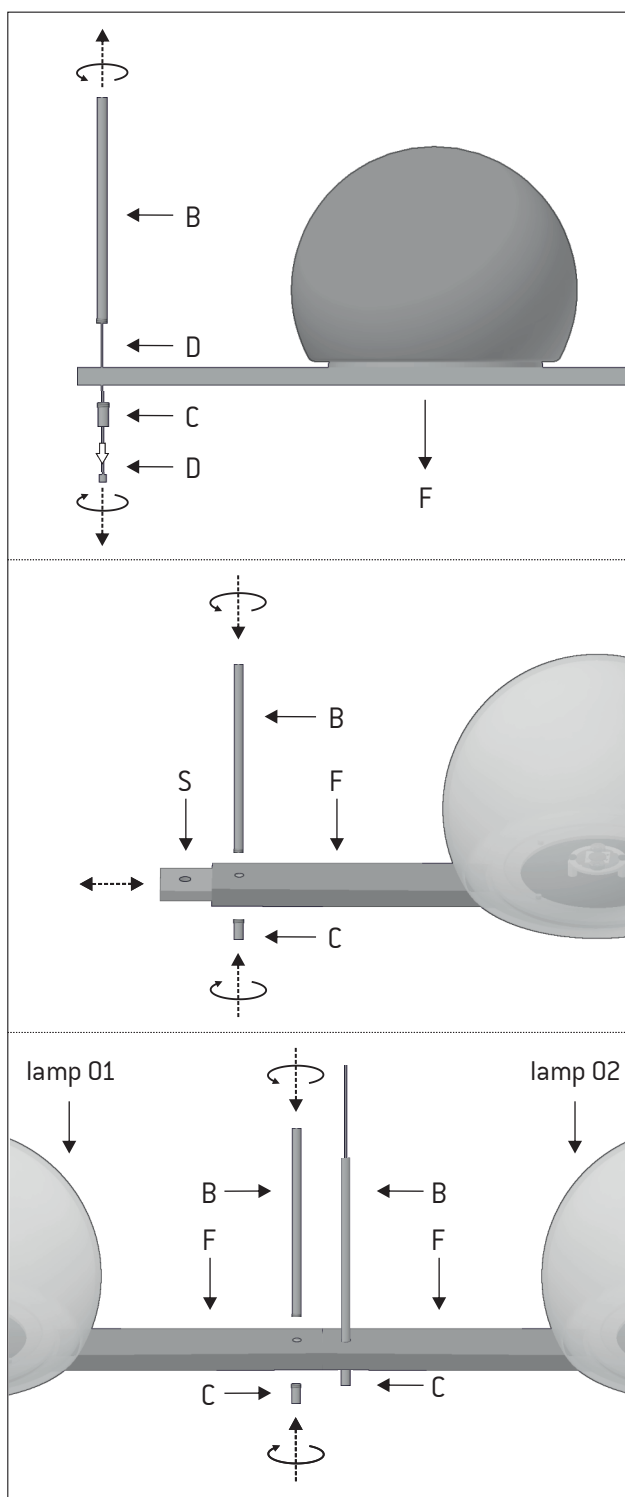

Figure 5
Separate the lamp body from the vertical stem and pull the rectangular piece (S) inside the stem (F) out. Insert half of the piece (S) back into the stem (F). Screw back the pieces (B) and (C) to fasten (S) and (F). Make sure that the rectangular piece (S) is attached to the stem (F) and to the pieces (A) and (B). Insert the steel cable through the piece (C) until it appears at the end of the stem (B). Carry out the same action at the end of the other lamp, discarding the new rectangular piece, and join the two lights through the piece (S) previously attached to the first light. Figure 5.
**Attention:** the stem (B) contains a plastic piece that maintains the cable centered when it passes through. In case it comes out, it must be placed again. Be careful not to lose it. Each lamp contains a rectangular piece inside, only one is necessary to join two pendants.